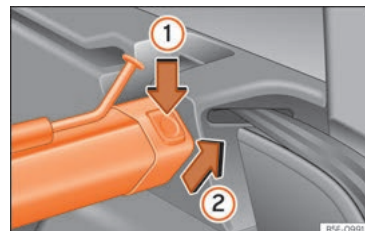

Fig. 180 In the boot: removing the partition net.
- Press the left or right release catch » Fig. 180 in the direction of the arrow ①.
- Remove the casing from the support in the direction of the arrow » Fig. 180 ②.
- Press the casing into the left and right supports in the opposite direction to the arrow » Fig. 180 ② until it engages.